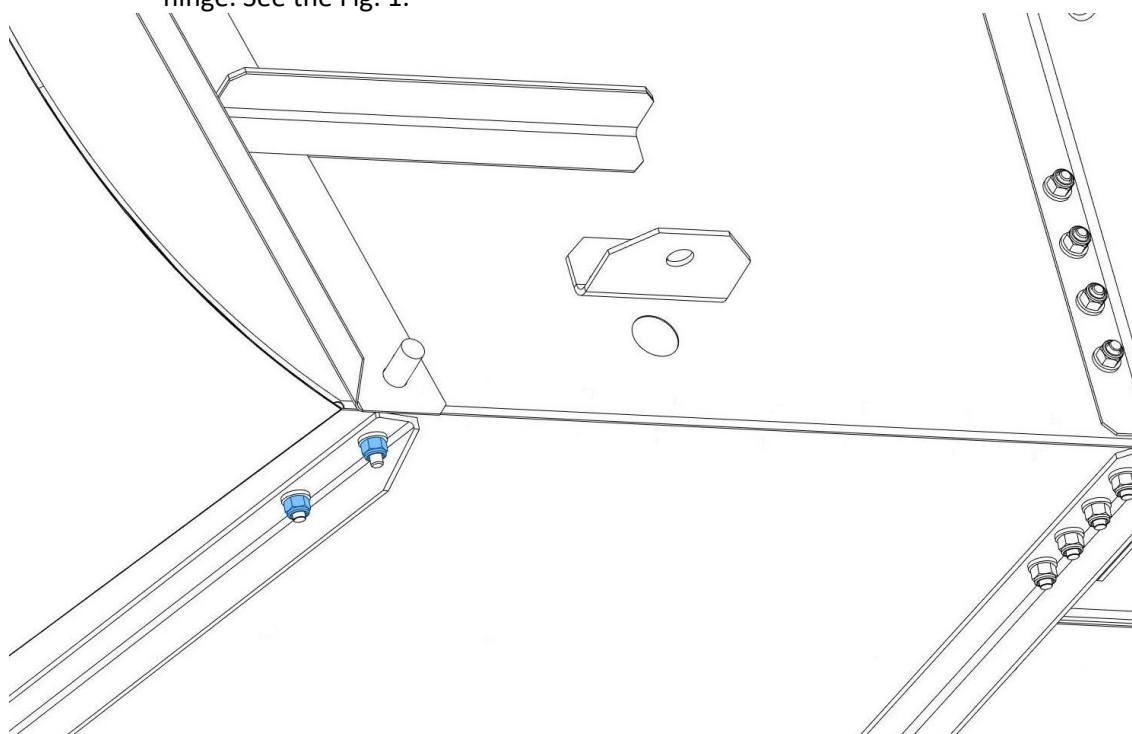

Fig. 1: Lower engine hinge nuts
- 4) From the bottom side of the airplane, unscrew the nuts holding the lower engine hinge. See the Fig. 1.